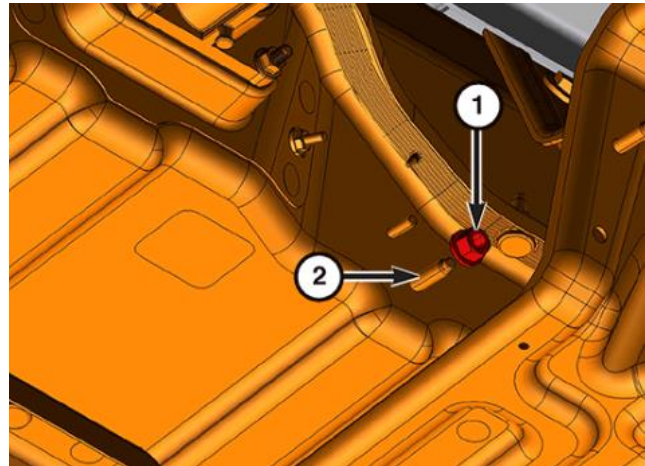

Figure 18 - Ground Stud and Nut
31. Remove the nut (1) and the chassis ground cable from the high-voltage battery ground stud (2) (Figure 18).